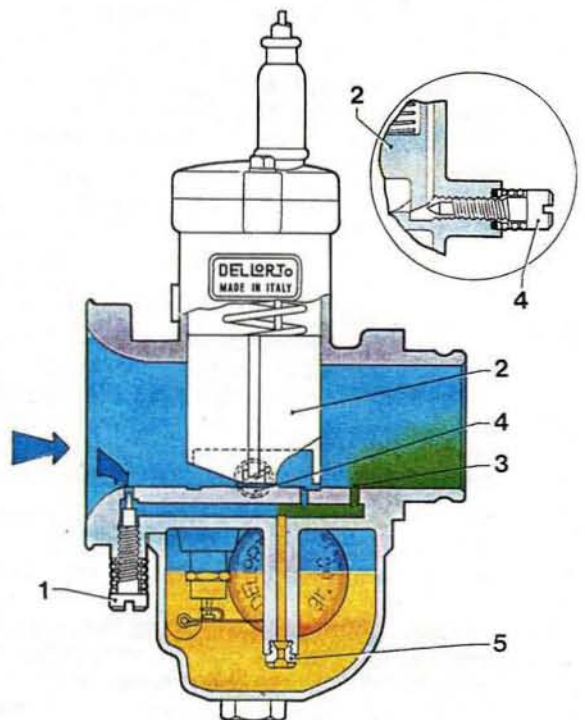

fig 19
In figure 19 the throttle slide (2) is shown in the idle position adjusted by the idle-speed screw (4). In this position, the vacuum existing downstream of the throttle valve causes mixture to be delivered through the hole (3).